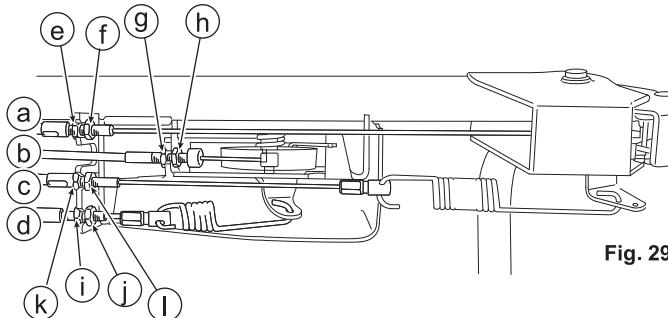

Fig. 29
8.6.1 Throttle Lever (See Figs. 29 and 30)
8.6.2 Blade Lever (See Figs. 29 and 31)
3. Confirm that the blade stops completely when the blade lever (C) is released.
8.6.3 Drive Clutch Lever (See Figs. 29 and 32)
3. Confirm that the machine can be pulled backward when the drive clutch lever (B) is released.
8.6.4 Gearshift Lever (See Figs. 29 and 33)